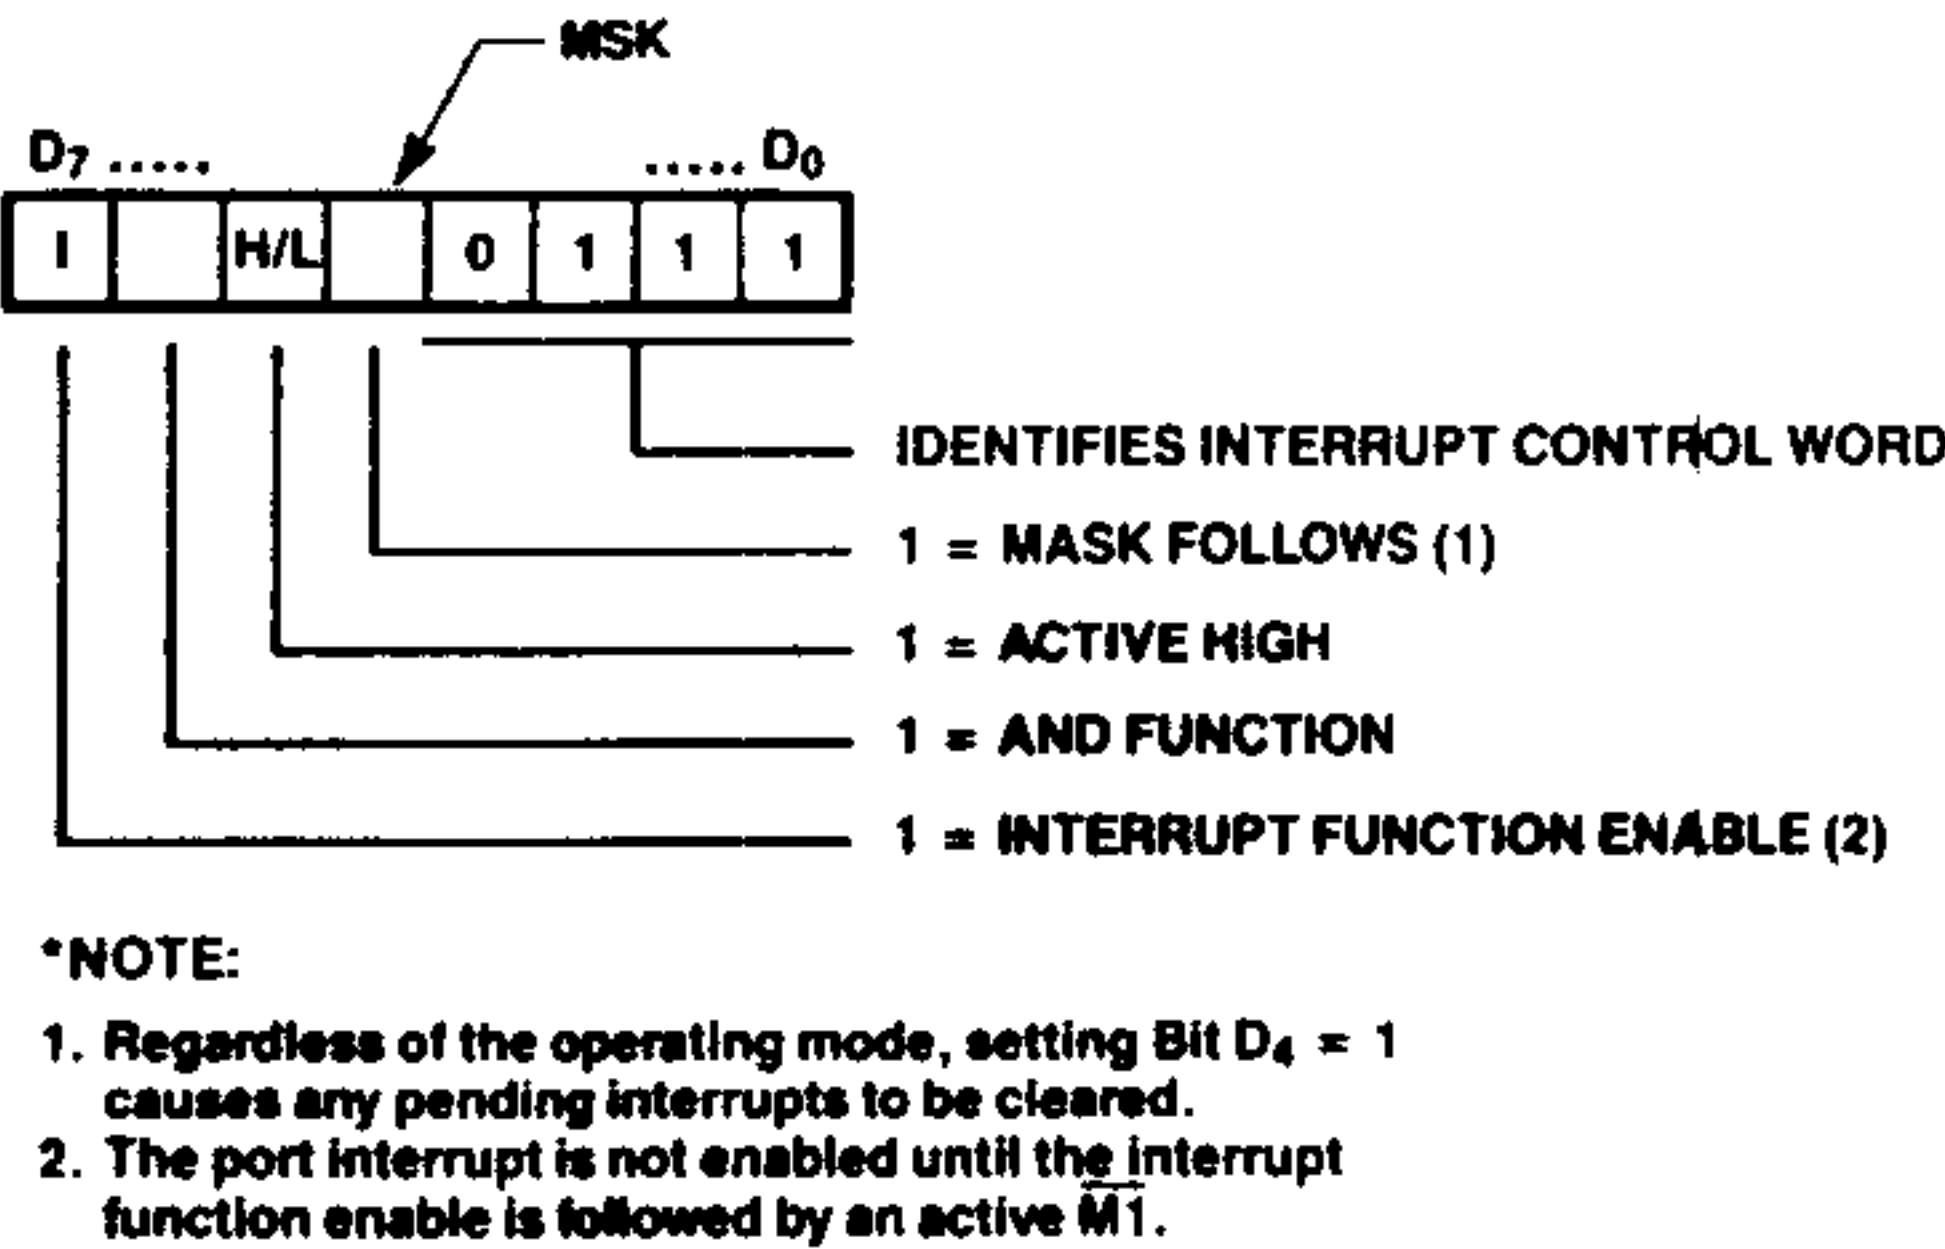
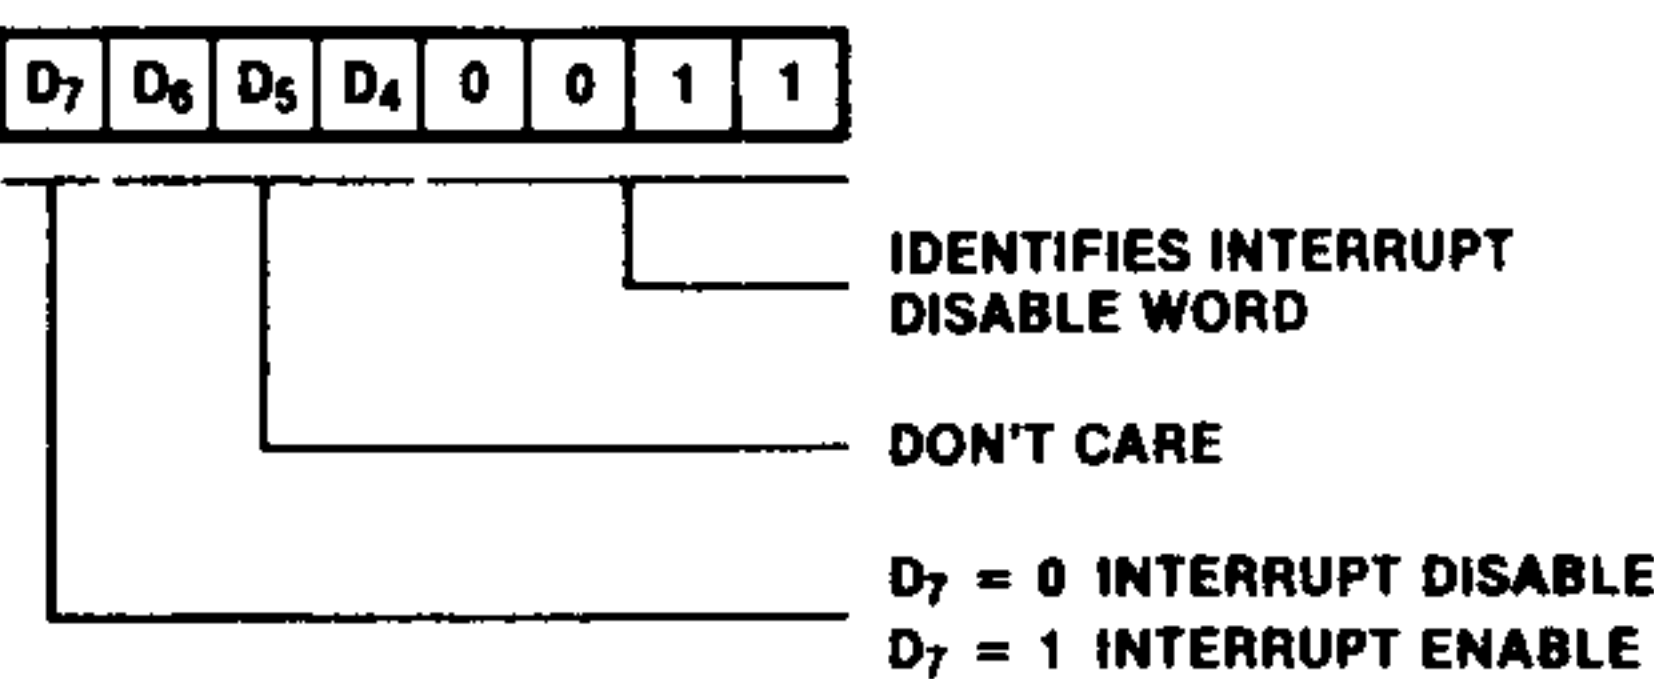

Figure 9. Interrupt Control Word
Figure 11. Interrupt Disable Word
**Interrupt Control Word** (Figure 9) or **Interrupt Disable Word** (Figure 11). Controls the enable or disable of the PIO interrupt function.
**Interrupt Control Word.** In Mode 3, handshake is not used. Interrupts are generated as a logic function of the input signal levels. The interrupt control word sets the logic conditions and the logic levels required for generating an interrupt. Two logic conditions or functions are available: AND (if all input bits change to the active level, an interrupt is triggered), and OR (if any one of the input bits changes to the active level, an interrupt is triggered). Bit D5 sets the logic function, as shown in Figure 9. The active level of the input bits can be set either High or Low. The active level is controlled by Bit D4.
**Interrupt Disable Word.** This control word can be used to enable or disable a port interrupt. It can be used without changing the rest of the interrupt control word (Figure 11).